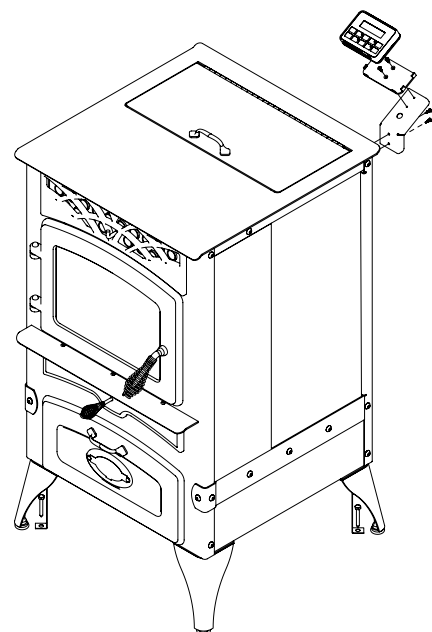

Figure 8: Controller on metal bracket in back.
1. Back of the stove with controller visible. You may mount the controller on either side of the rear of the stove (see figure 8) so it is visible during operation. To do so use the metal mounting bracket and the (4) self-tapping screws ((2) through the plastic bracket and (2) through the back panel of the stove). Attach through the pre-drilled holes.